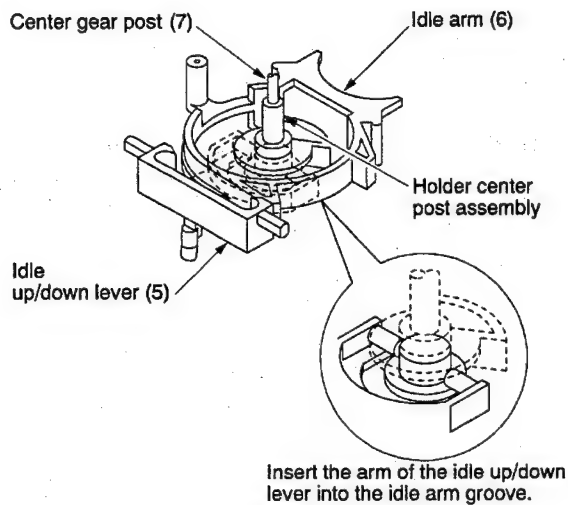

Fig. 2-1-60
- Stop ring (1) is impossible to use again.
- When mounting the parts, take care of the notice shown in Fig. 2-1-60.